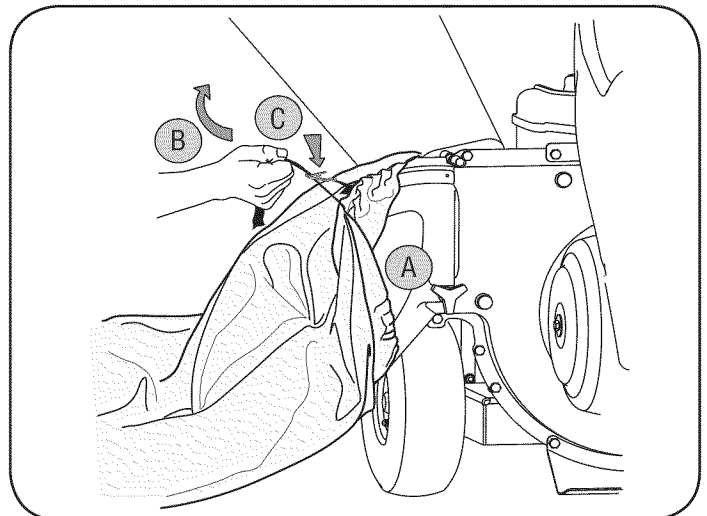

Figure 8
C. Clip drawstring back on itself, tight against chute deflector to secure into position. See Figure 8.